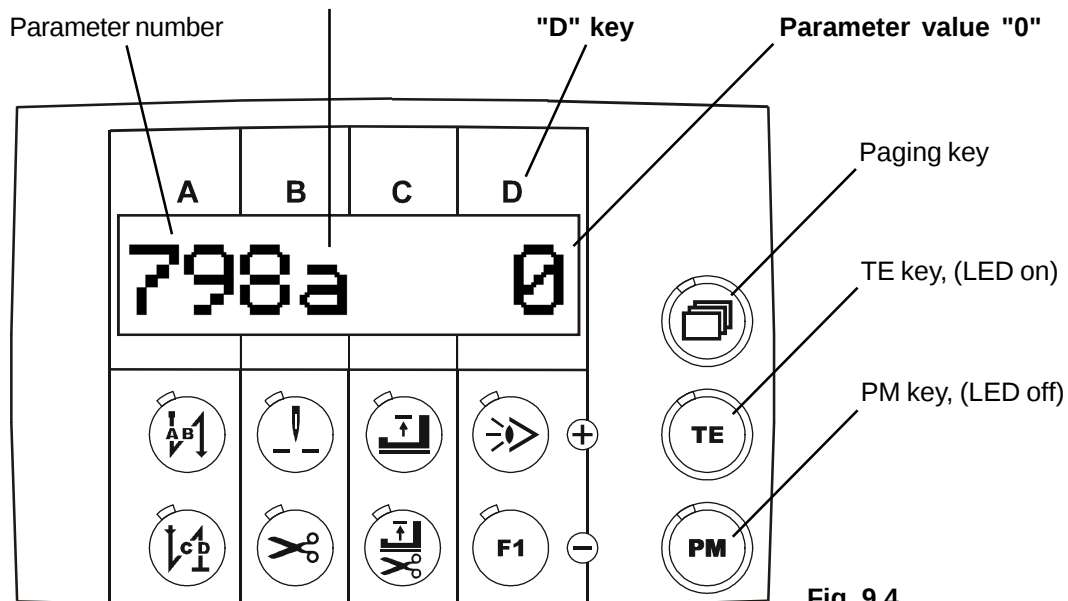

Fig. 9.4
- Press the **paging key** until display **Fig. 9.4** is displayed; **sewing is not possible**
- Use **keys A+ / A-** and **B+ / B-** to select **parameter 798**, **Fig. 9.4**
"a" = programming level, "a", appears on the display, **Fig. 9.4**